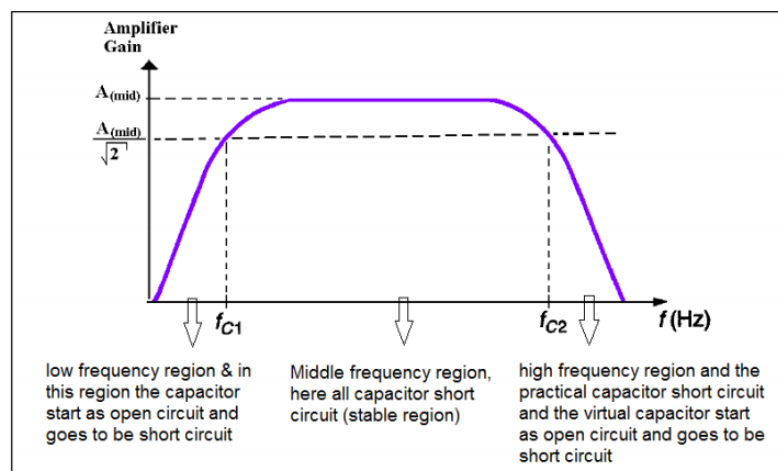

Figure 4: The frequency response of BJT amplifier
Now, we will show the relationship between the voltage gain and varying frequency and defined the regions. The frequency response of BJT amplifier is shown in figure 4.
- Explain figure 4 in terms of mathematical formula that how capacitors behave open and short at low and high frequencies respectively?